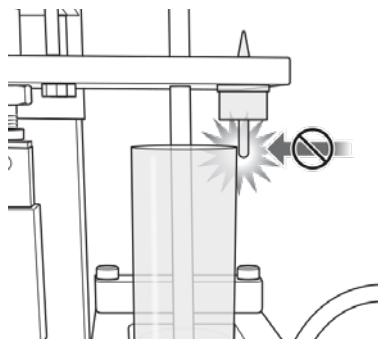

Fig. 23. Bottom piercer hitting inlet funnel if not added in correct order.
- Slide the reagents cartridge piercer until it clicks or snaps into place. Do this before placing the inlet funnel. The funnel is too tall to place the piercer after placing the funnel (Figure 23).